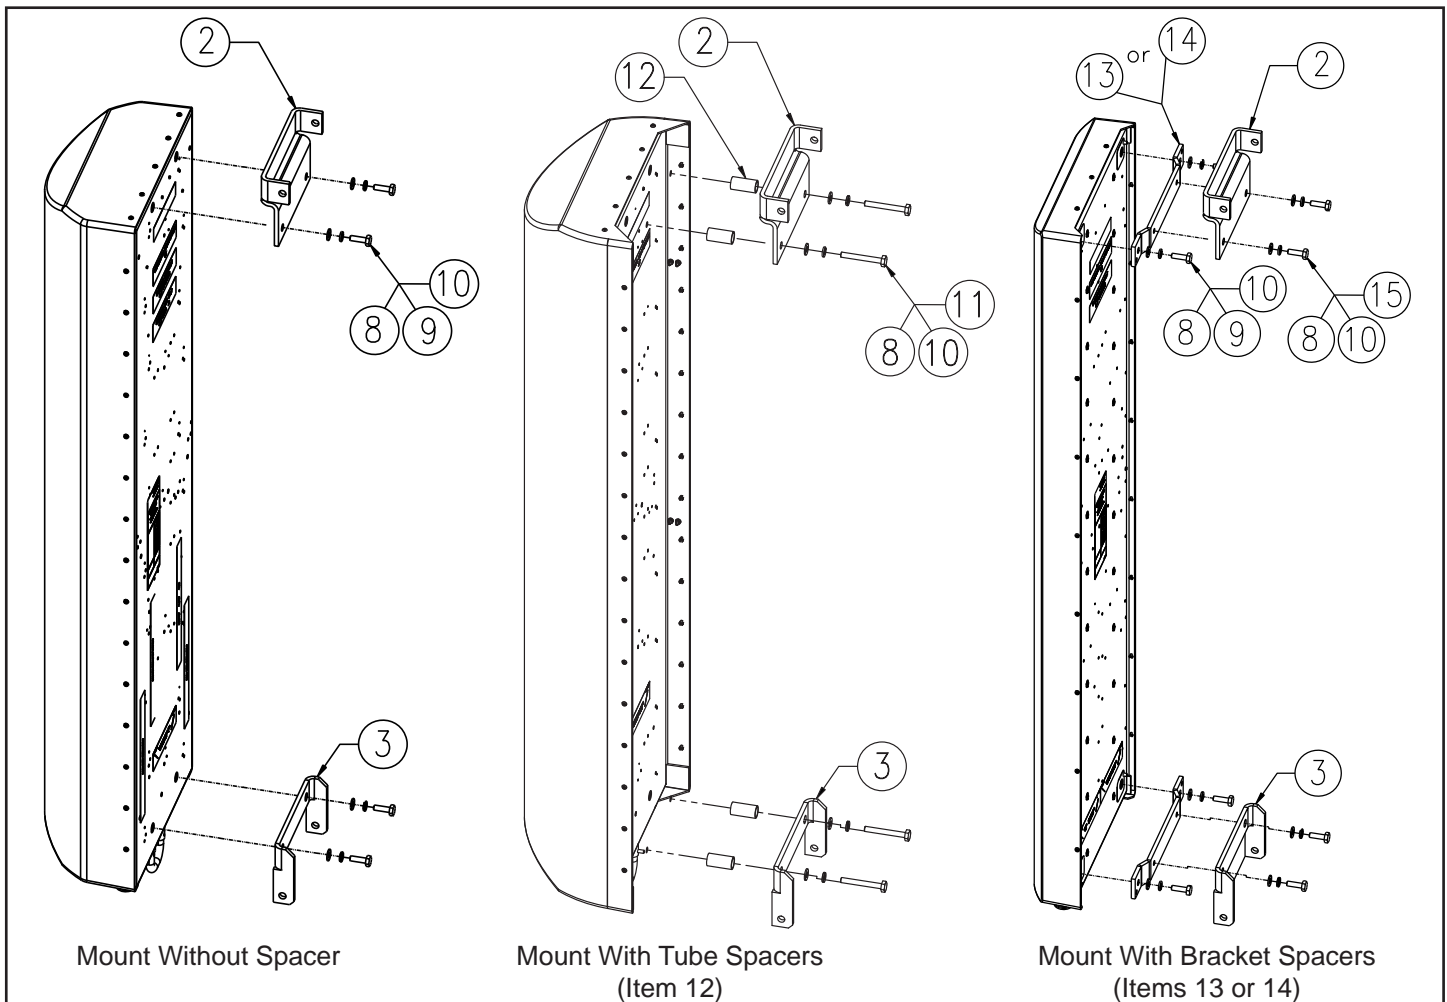

Figure 3. Attaching Mounting Brackets to Type 1 Antennas.
3. Referencing Figure 3, determine if a spacer will be needed to offset the antenna. Using the hardware and spacers provided, attach the 800TREEKIT brackets (Items 2 and 3) to the top and bottom of the antenna (Figure 3).